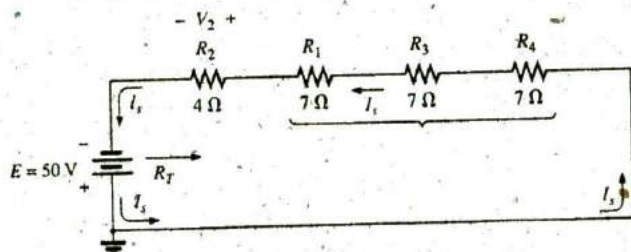

FIG. 5.17
- The elements of the circuit are rearranged as shown in Fig. 5.17.
- b. Note that because of the manner in which the dc supply was connected, the current now has a counterclockwise direction as shown in Fig. 5.17:
- c. The direction of the current will define the polarity for V_2 appearing in Fig. 5.17: